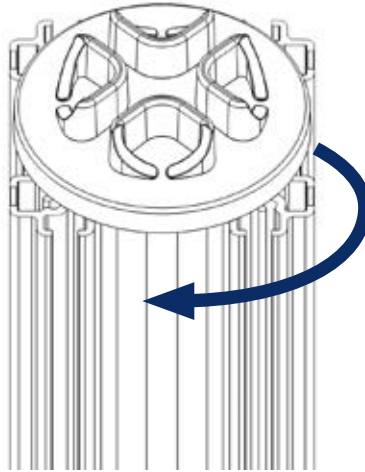

Fig. 10
- ▶ Turn lid clock wise and close upon the housing, observe that the "O"-ring fits in place properly. (Fig. 10)